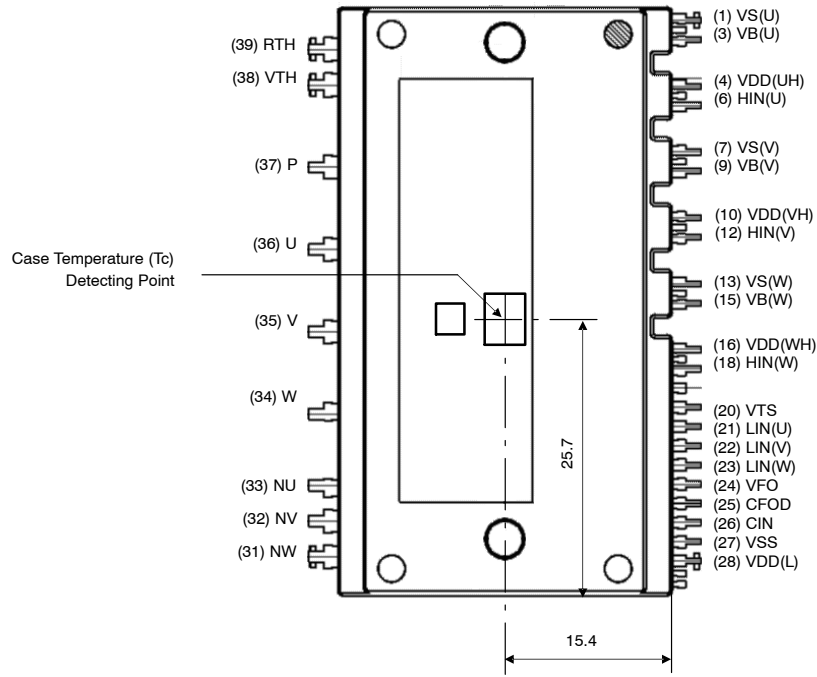

Figure 10. Case Temperature (Tc) Detecting Point
8. For the measurement point of case temperature (Tc), please refer Figure 10.